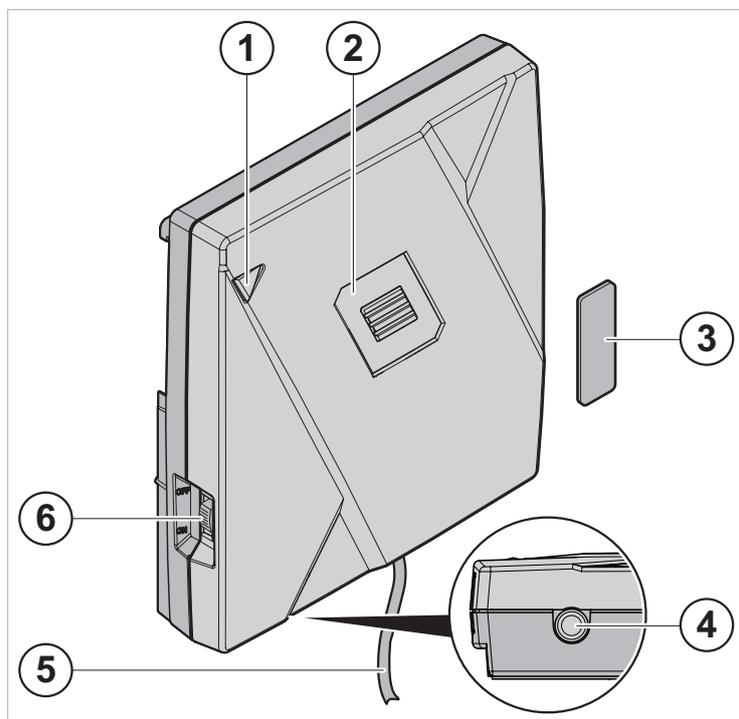

Fig. 1 Sensor module and mounting plate
- ▶ Press the call button (2, Fig. 1) for 10 sec. until the reassurance light (LED) lights up.
- ▶ Press the centre call button (2, Fig. 1).
- ▶ Pull the cord (5, Fig. 1).
- ▶ Switch the accessory ON/OFF with the switch (6, Fig. 1).